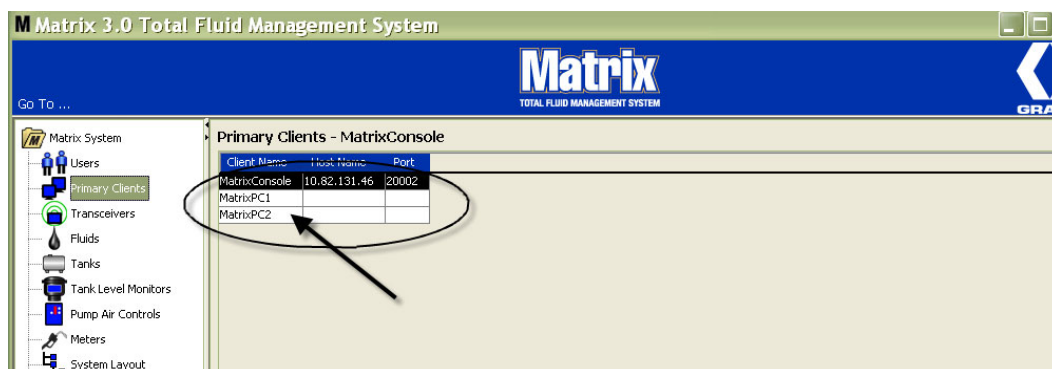

FIG. 81
6. The new Primary Client is added to the bottom of the list on the Primary Clients screen (FIG. 81). Note that after entering a new Primary Client name, the name appears with its host name and port fields blank. These fields will be populated automatically the next time the Primary Client connects with the Matrix Service Engine.